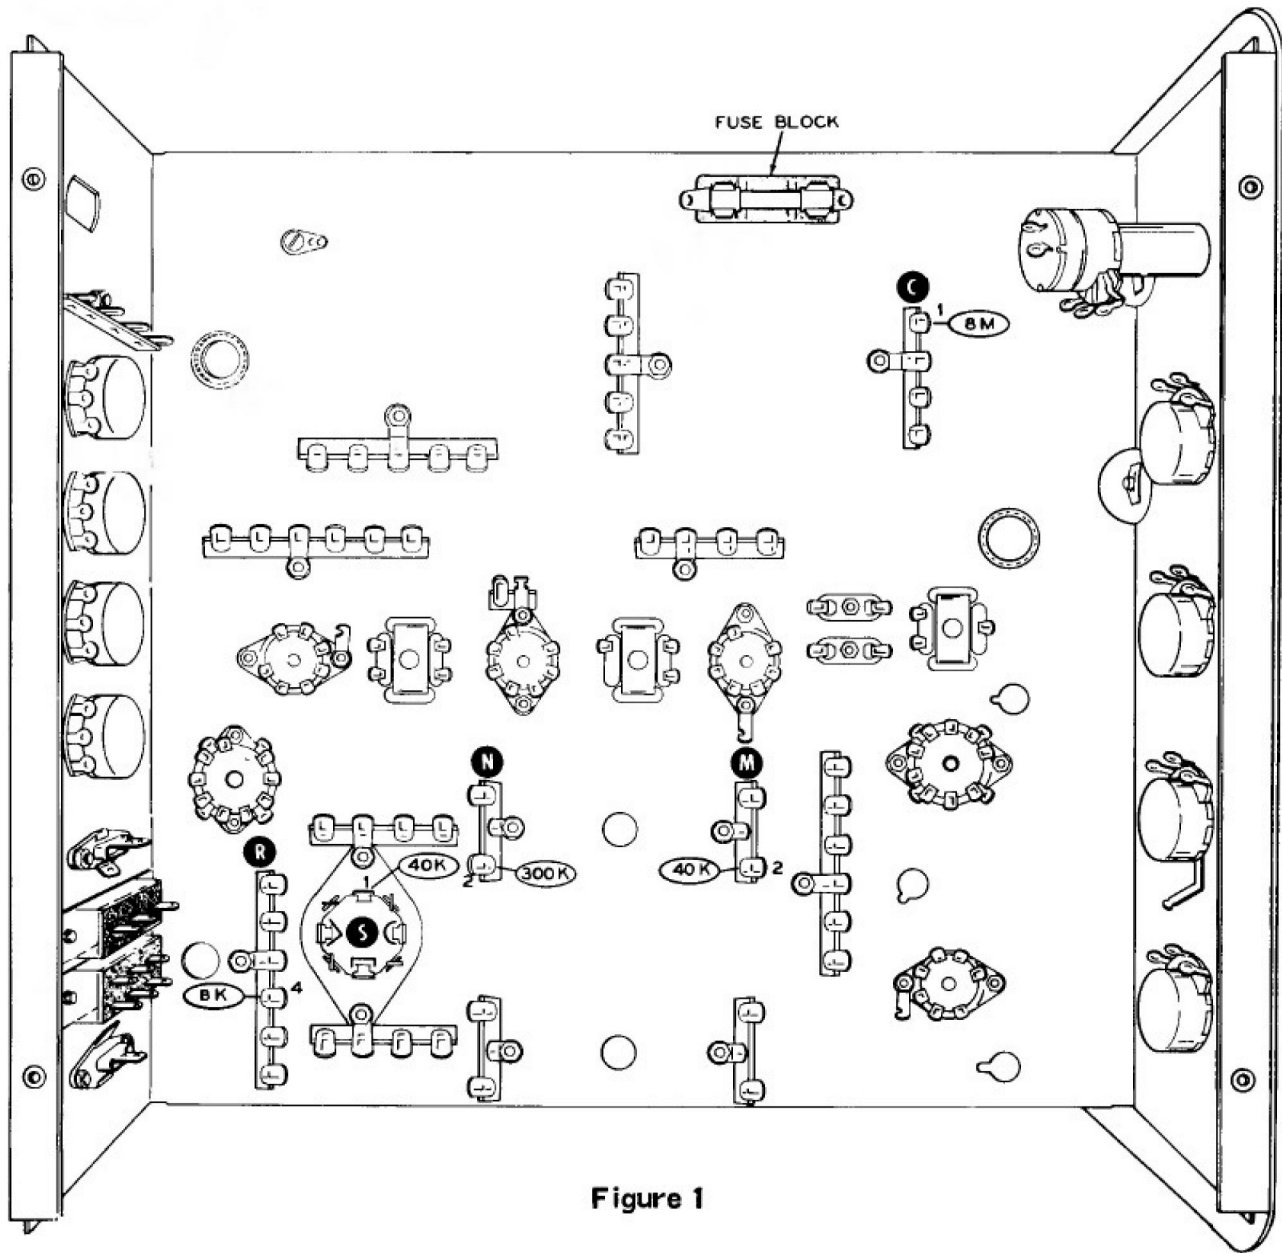

Figure 1
Figure 1 enables you to identify the test points and shows the resistance to be expected at each. Due to component and meter tolerances, readings can vary up to 20%.
- (✓) Install a 1/2 ampere slow-blow fuse in its holder as shown in Figure 1.